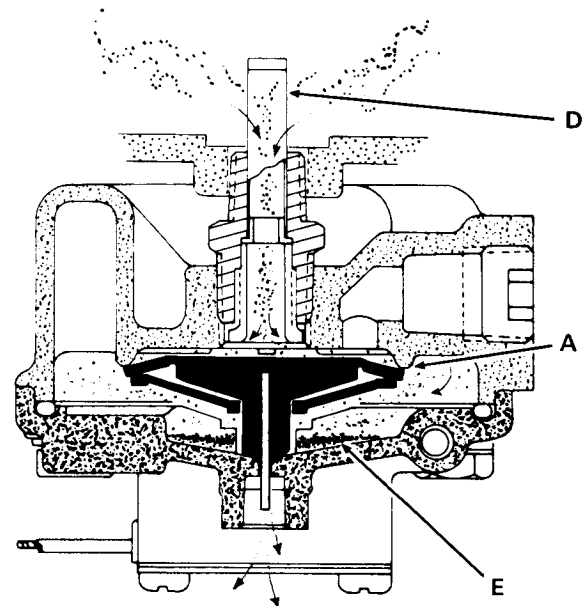

FIGURE 3
(See Figure 3) When the governed air pressure is reached, the pressure above and below diaphragm (C) balances, and the inlet valve (A) closes. Exhaust valve (B) remains on its seat (BB).